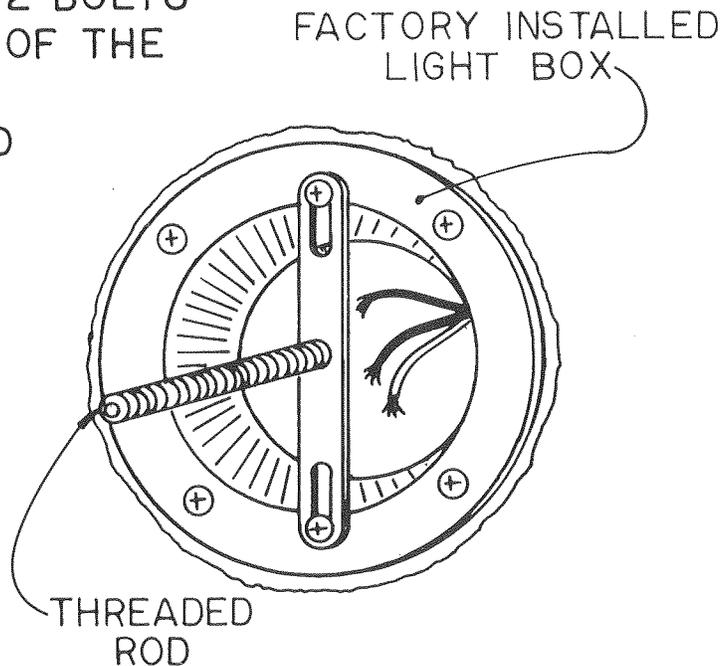

FIG. 27
1. Install threaded tube in the strap secured to the fixture outlet box as shown in Fig. 27.